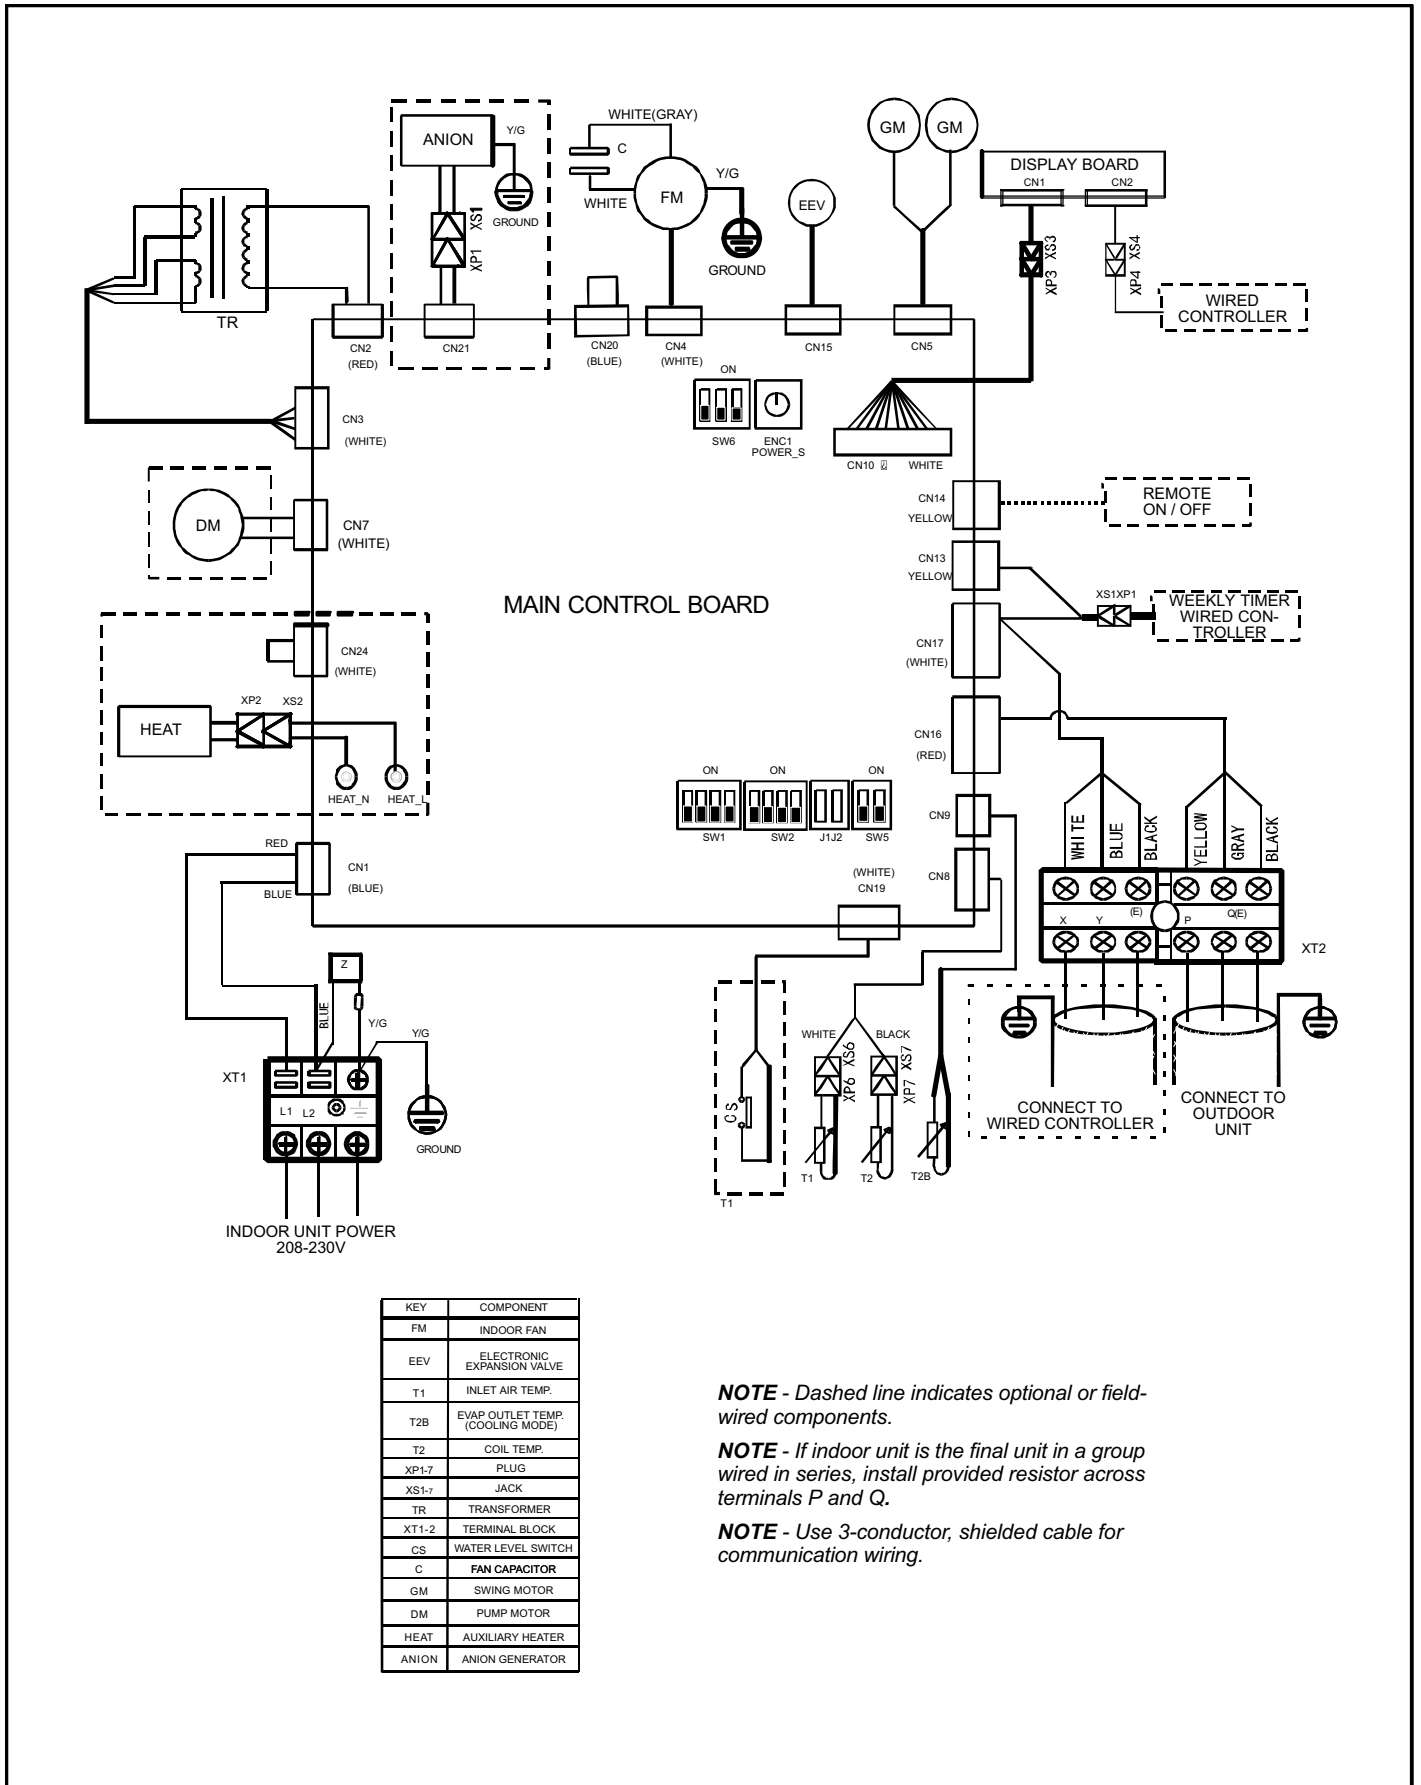

Figure 12. Typical VWMA007 to 018 Wiring Diagram
- 2 - Locate the terminal strip in the control box. Connect the power wiring (sized per NEC/CEC and local codes) and communications cable (**three-conductor, shielded cable**) per figures 12 and 13. Refer to unit nameplate for rated voltage.